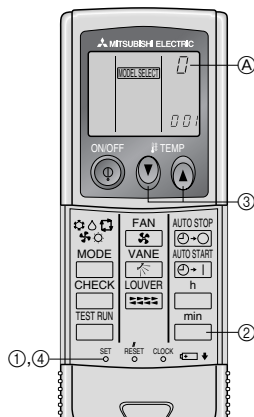

Fig. 7-7
4) Assigning a remote controller to each unit (Fig. 7-7)